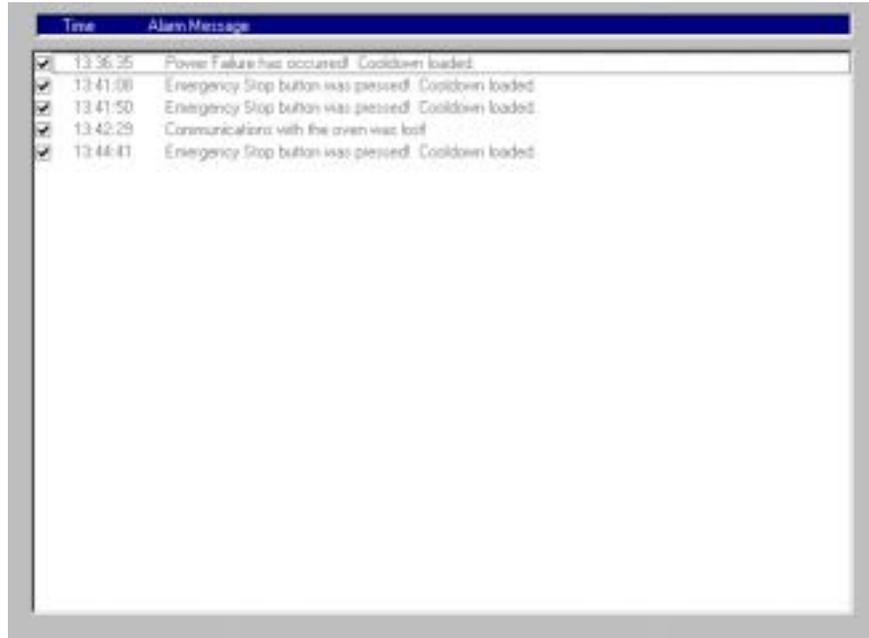

Figure 26
- d. Alarm Screen displays a list of alarms and warnings that have occurred. Next to each alarm or warning there are check boxes for acknowledgement. Click the Alarm icon on the main toolbar or from the menu bar click Window then Alarm. **See Figure 26.**